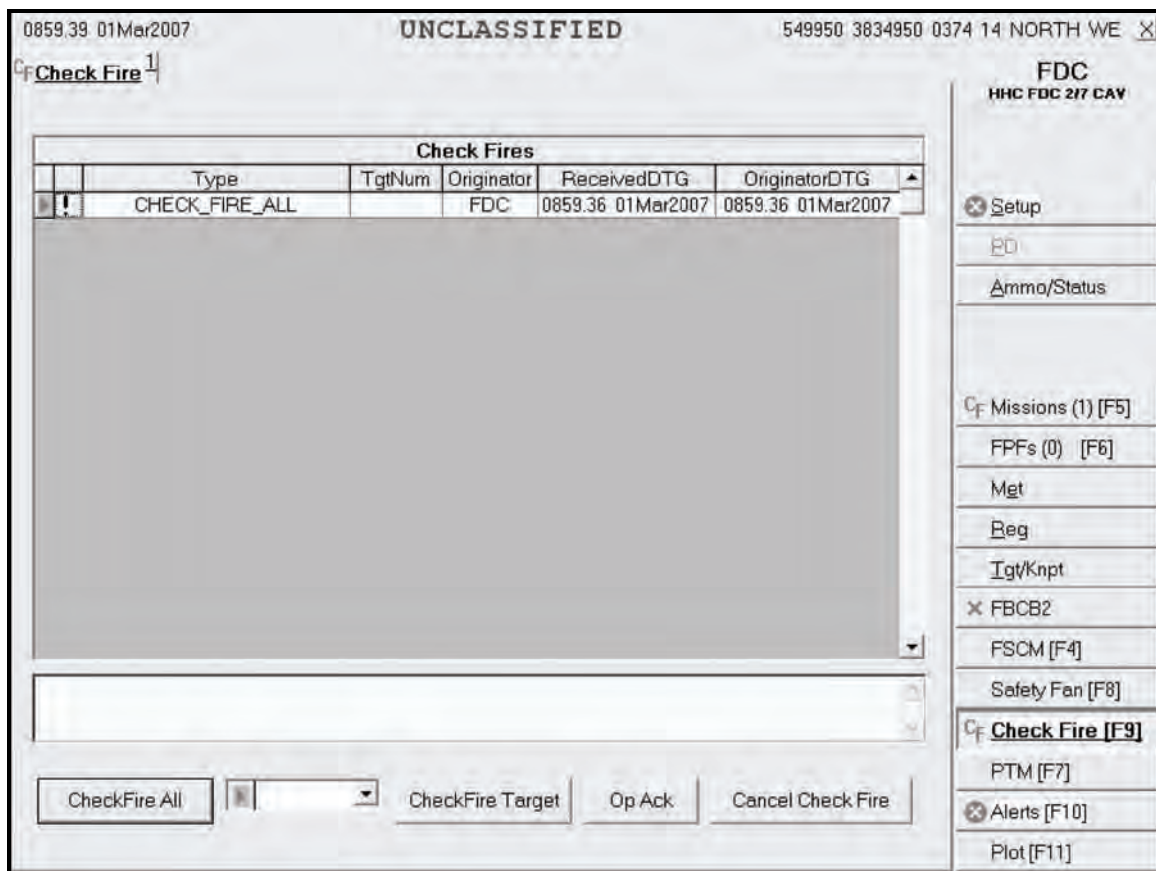

Figure 15-31. Check Fire screen.
- (1) A red “CF” message displays in the control tab area in front of Missions and Check Fire.
- (2) Click the Check Fire button to display the Check Fire screen (Figure 15-31).
- (3) An exclamation point (!) indicator is displayed in the index box.
- (4) Click OpAck to acknowledge the message; the indicator and audio alarm (if set) will be turned off.